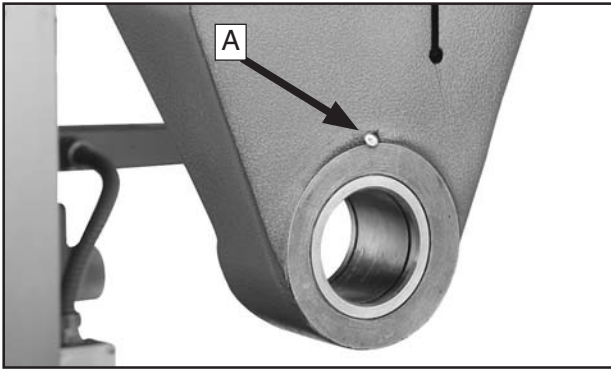

Figure 65. Horizontal arbor support bushing ball oiler (shown from the back of the mill).
2. Refer to **Figures 65–66** to identify each of the following ball oilers: